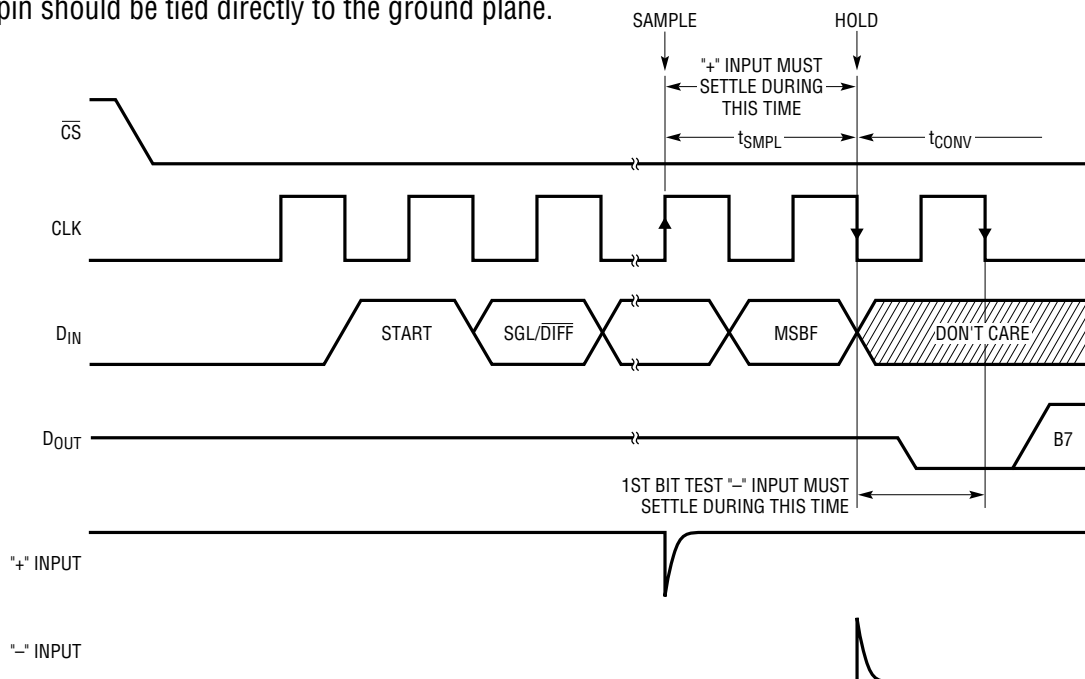

Figure 7. LTC1098(L) “+” and “-” Input Settling Windows
Both the LTC1096(L) and the LTC1098(L) provide a built-in sample-and-hold (S&H) function to acquire signals. The S&H of the LTC1096(L) acquires input signals from “+” input relative to “-” input during the  $t_{WAKEUP}$  time (see Figure 1). However, the S&H of the LTC1098(L) can sample input signals in the single-ended mode or in the differential inputs during the  $t_{SMPL}$  time (see Figure 7).
The sample-and-hold of the LTC1098(L) allows conversion of rapidly varying signals. The input voltage is sampled during the  $t_{SMPL}$  time as shown in Figure 7. The sampling interval begins as the bit preceding the MSBF bit is shifted
The input capacitor of the LTC1096(L) is switched onto “+” input during the wake-up time (see Figure 1) and samples the input signal within that time. However, the input capacitor of the LTC1098(L) is switched onto “+” input during the sample phase ( $t_{\text{SMPL}}$ , see Figure 7). The sample phase is 1.5 CLK cycles before conversion starts. The voltage on the “+” input must settle completely within
When driving the analog inputs with an op amp it is important that the op amp settle within the allowed time (see Figure 7). Again, the “+” and “-” input sampling times can be extended as described above to accommodate slower op amps. Most op amps, including the LT1006 and LT1413 single supply op amps, can be made to settle well even with the minimum settling windows of 3 $\mu$ s (“+” input) which occur at the maximum clock rate of 500kHz.